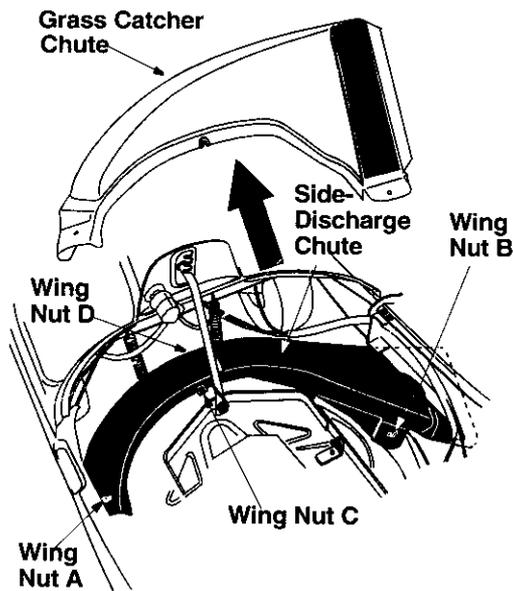

Figure 4
- Remove the two wing nuts (A and B in Figure 4) from two ends of the grasscatcher chute.
- Loosen the two wing nuts (C and D in Figure 4) in the middle of the chute. Do not remove. All four wing nuts (A, B, C, and D) hold the chute to the deck frame.